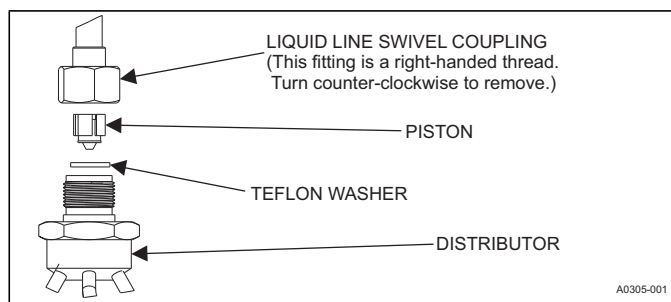

FIGURE 23: Piston Installation
6. Install required size piston into the distributor. Refer to supplied Tabular Data Sheet for specific piston size and indoor coil match up. See Figure 23.
7. Verify that the Teflon washer is still in place in the distributor opening. See Figure 23.